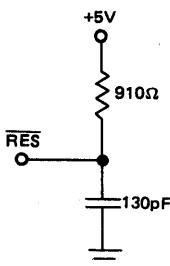

Figure 1 RES Test Load
• DC CHARACTERISTICS ( $V_{CC} = 5V \pm 5\%$ ,  $V_{SS} = 0$ ,  $T_a = 0 \sim +70^\circ C$ , Fig. 1, 2, 3, unless otherwise noted.)